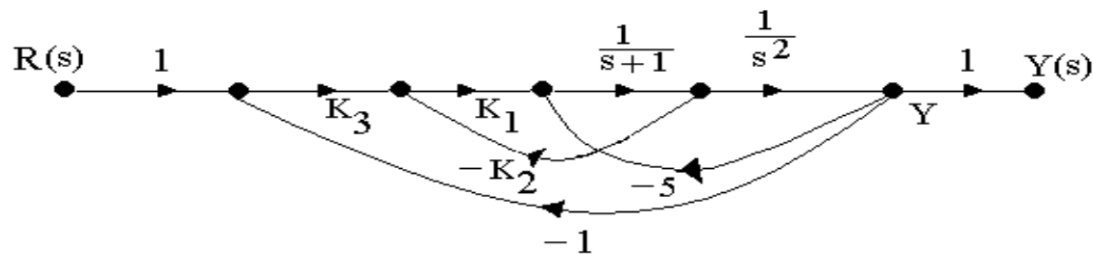

Fig. 5
b. A servo system is represented by the signal flow graph shown in Fig.5. The nominal values of the parameters are $K_1 = 1$, $K_2 = 5$ and $K_3 = 5$. Determine the overall transfer function $Y(s) / R(s)$ and its sensitivity to changes in K_1 under steady dc conditions, i.e., $s = 0$.